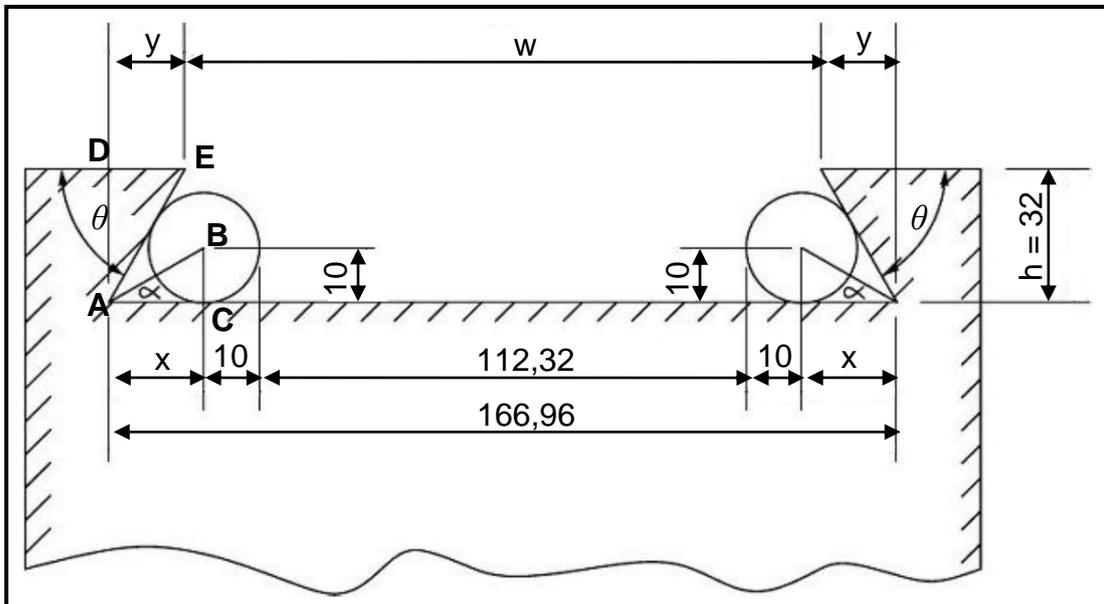

FIGURE 6.2
6.2 FIGURE 6.2 below shows an external dovetail that must be manufactured for a compound slide on a lathe machine.